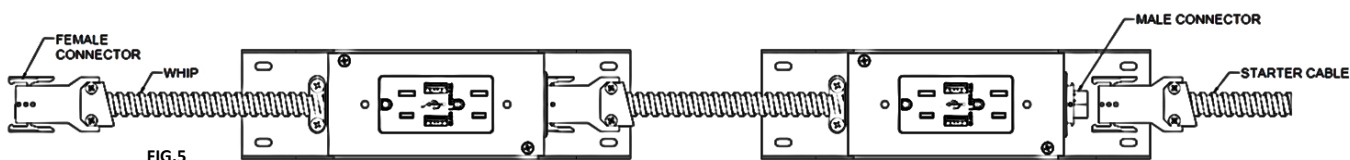

FIG.5
- 5- To connect unit #2 align like color contacts and connect the base with the interconnecting cable (fig. 5). Mount the power unit using screw (D) for sheet metal or screw (B) for wood** (fig. 3). Don't tighten the screws all the way. Place the cover over the base to ensure proper fit adjusting the base as needed. Tighten the mounting screws to fix in place.
- 7- Connect the power infeed (sold separately) to the first power unit in the circuit (fig.5).